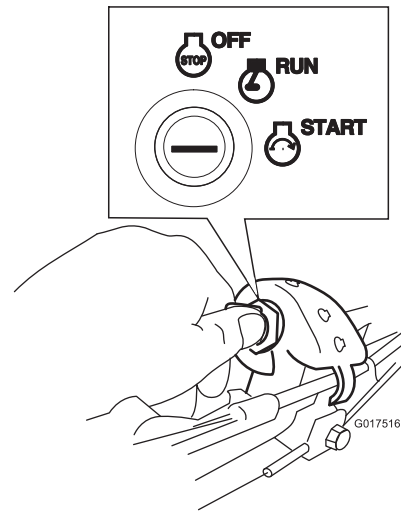

Figure 19
- **Ignition Key:** Turn and hold the ignition key to the Start position (Figure 19); when the engine starts, release the key.
1. Turn the ignition key to the Run position (Figure 19).